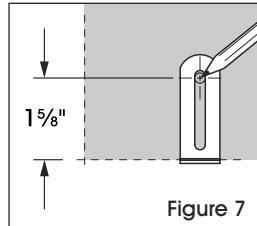

Figure 7
2. Remove board and mark wall 1 $\frac{5}{8}$ " from bottom of L-Brackets. (See Figure 7)